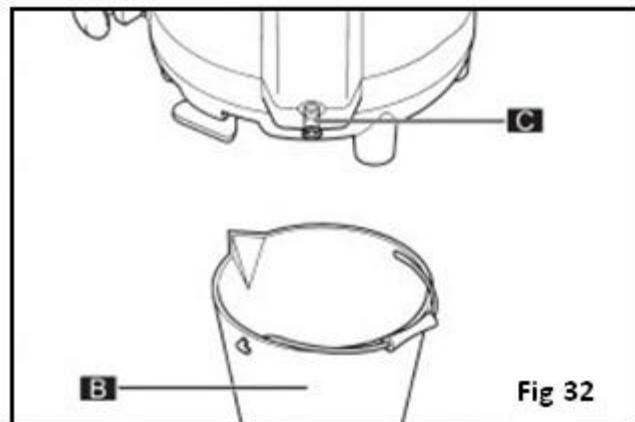

Fig 32
- Place a container (B) with a capacity of more than 3 litres underneath the bleeder cap (C).
- Use a coin or Allen wrench to unscrew the bleeder cap (C).
- Pull out the cap (C) with a firm movement and wait for all the water to empty out from the boiler tank (Fig 32).